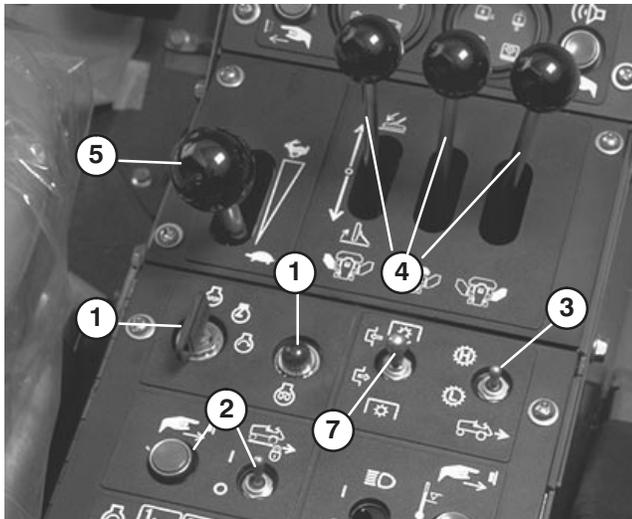

Figure 21
3. Rotate ignition key switch to START position (Fig. 21). Release key immediately when engine starts and allow it to return to RUN position.